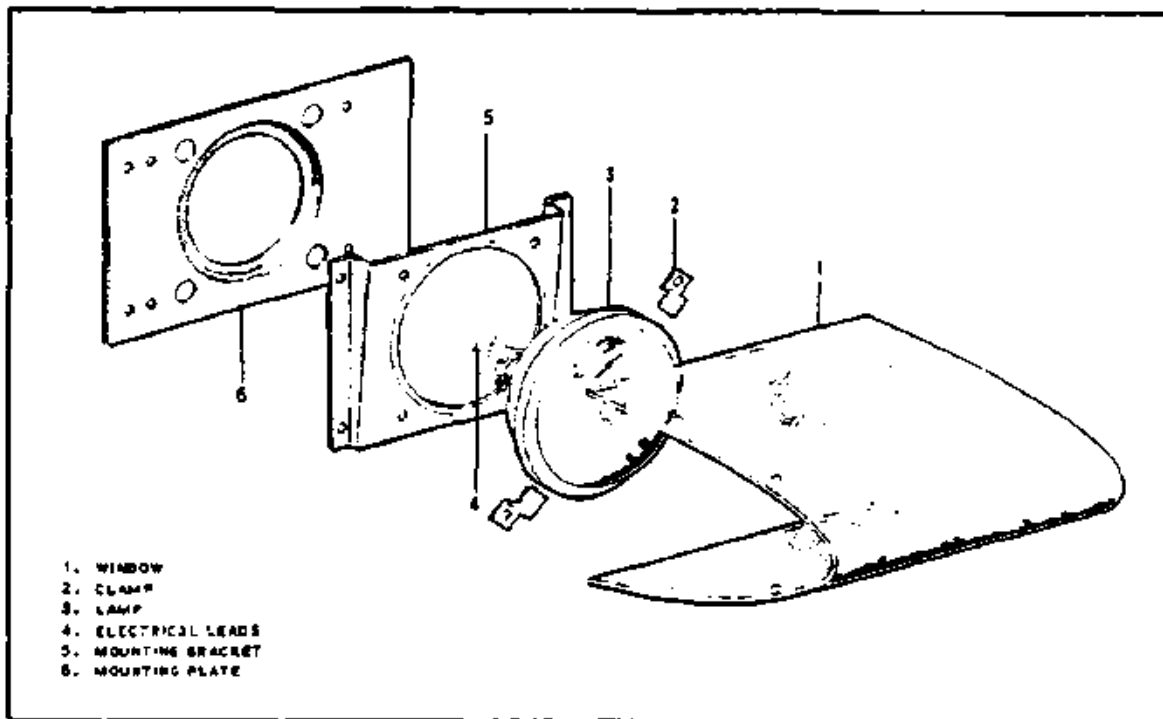

Figure 4-1. Landing Light Installation
#### 4-8. REMOVAL OF LANDING LIGHT. (Refer to Figure 4-1.)
- b. Remove the sheet metal screws from the landing light window assembly (1).
- c. Remove the machine screws and clamps (2) holding the lamp (3).
- d. Pull the lamp forward and remove the electrical leads (4) from rear of the lamp, then remove the clamp.
**4-9. INSTALLATION OF LANDING LIGHT. (Refer to Figure 4-1.)**
- b. Connect the electrical leads (4) to the back of the lamps (3) and secure the lamp to the mounting brackets (5). Ascertain that the lamp will light.
- c. Install the landing light window (1).